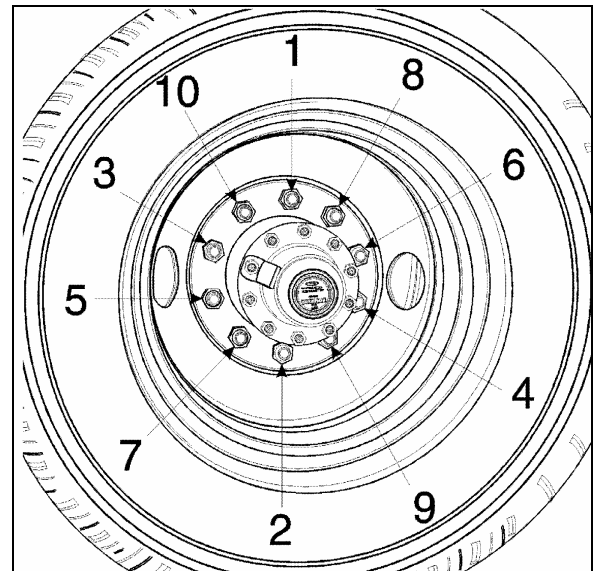
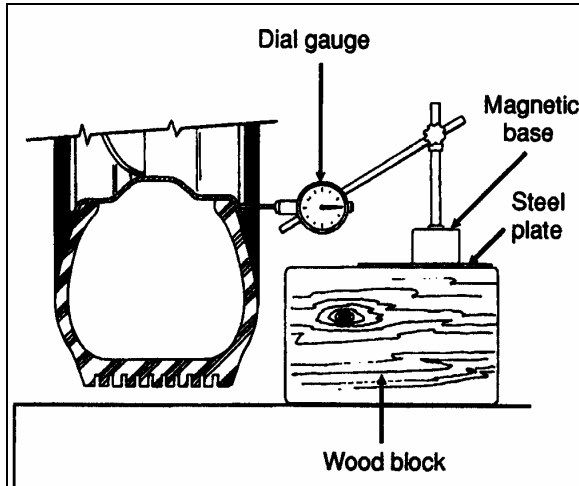

FIGURE 2: TIGHTENING SEQUENCE
FIGURE 3: DIAL GAUGE INSTALLATION
It is also important that wheel stud nuts be tightened alternately on opposite sides of the wheel. Refer to Figure 2 for the suggested tightening sequence.
Tighten stud nuts progressively as shown in Figure 2. The final tightening should be done with a torque wrench. Tighten stud nuts to 450 - 500 lbf-ft (610 - 680 Nm) for aluminum wheels.
2. Screw in the hex stud nuts (refer to Figure 2 for sequence) so that wheel will position itself concentrically with hub. This is important, otherwise wheel may be eccentric with hub and will not run straight. In this initial step, slightly tighten the nuts to correctly position the wheel;
3. Tighten stud nuts progressively as shown in Figure 2. The final tightening should be done with a torque wrench. Tighten stud nuts to 450 - 500 lbf-ft (610 - 680 Nm) for aluminum wheel.
2. Screw in the inner cap nuts (Fig. 3), so that wheel will position itself concentrically with hub. Refer to Figure 2 for sequence;
3. Tighten inner cap nuts progressively according to sequence shown in Figure 2. Final tightening should be done with a torque wrench. Tighten inner cap nuts to 450 - 500 lbf-ft (610 - 680 Nm) for aluminum wheel.
Repeat for each of the 10 "hex stud nut - inner cap nut assemblies" according to the tightening sequence in Figure 2.
2. Check wheel lateral runout. Install a dial gauge as shown in Figure 3, then rotate the wheel by hand one full turn. As the wheel turns, note any variation on the dial gauge;